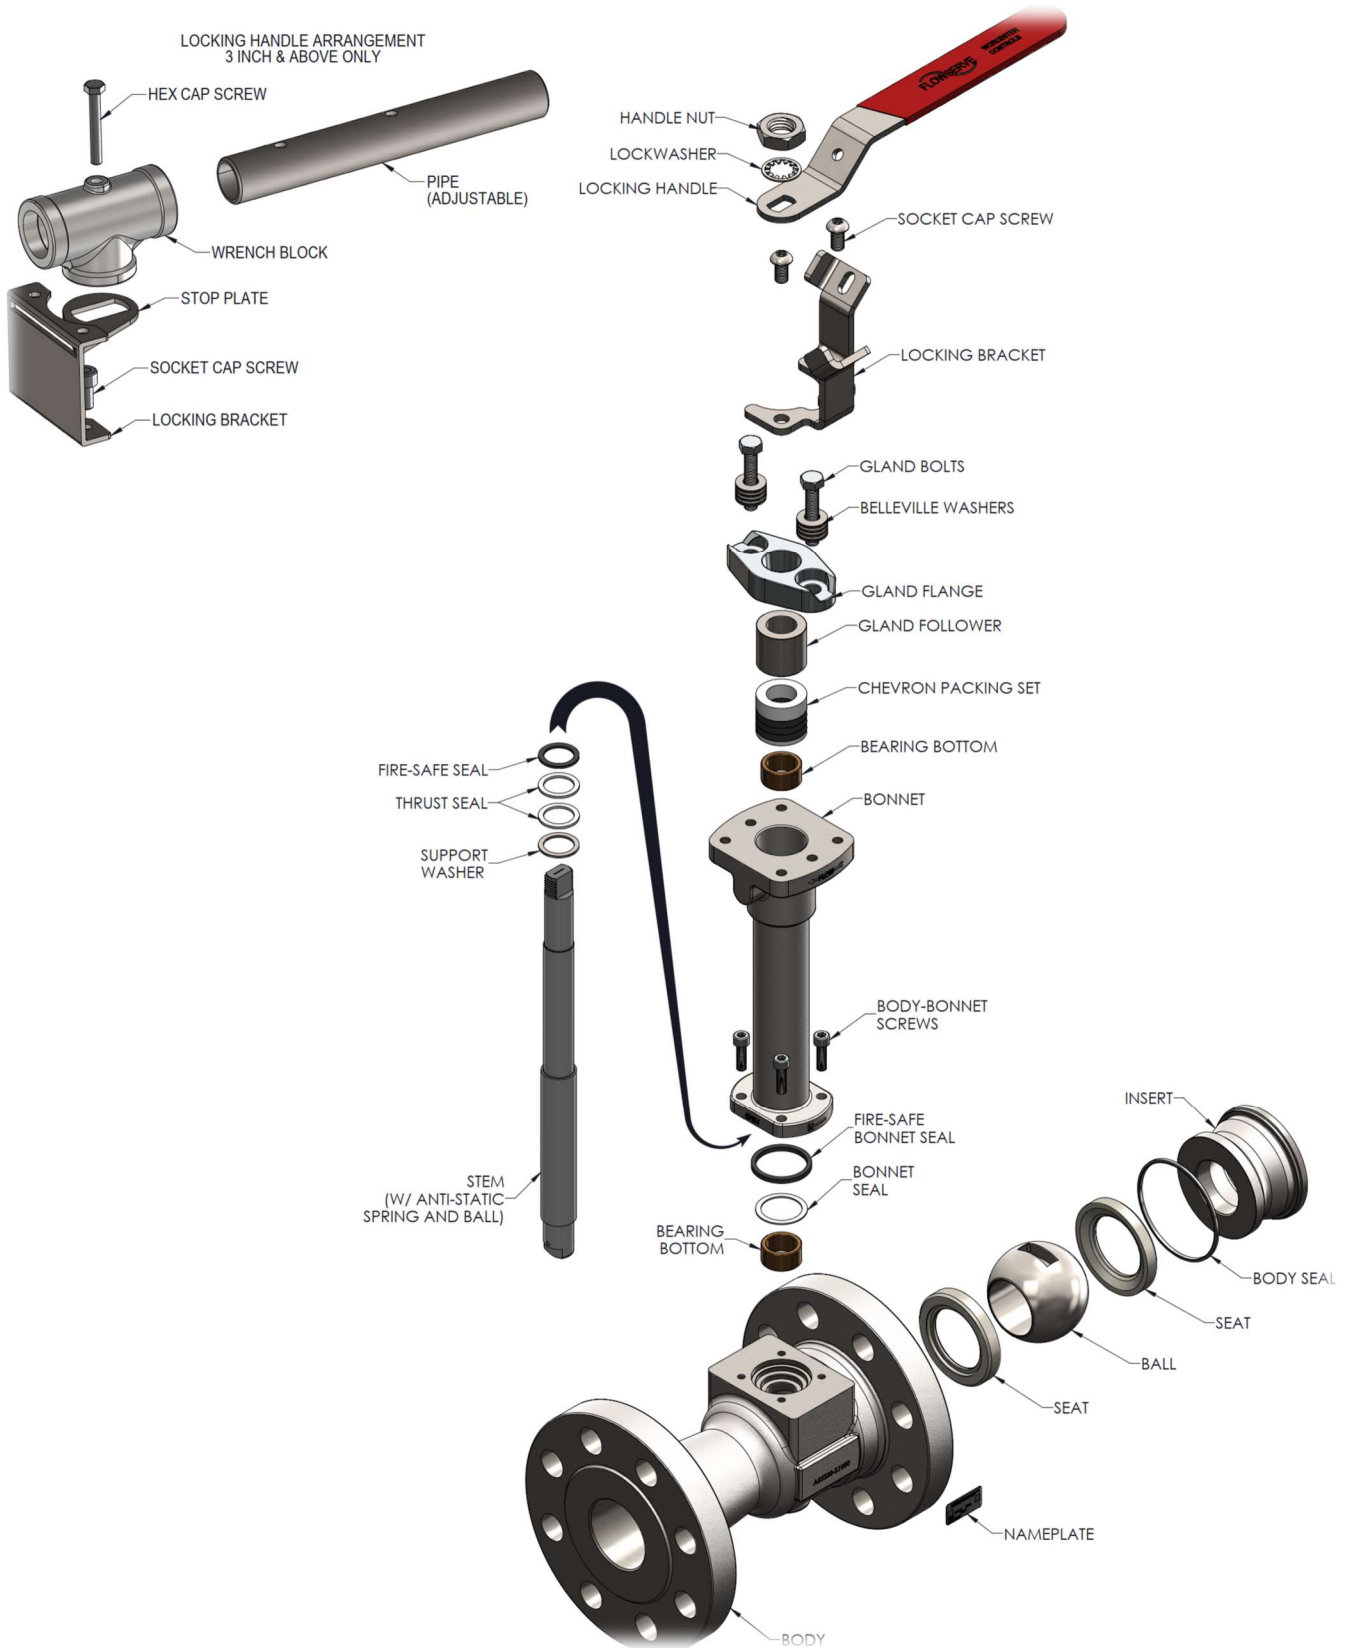

Figure 3 :
3. Remove the valve from line. Unscrew the insert and set aside. (Refer Figure 3 Exploded view for parts identification).
4. Take the stem and slide out the parts one by one starting from Support Washer, new thrust seals & new Fire-safe seals from top. Consider this as stem assembly. (Refer Figure 3 Exploded view for all parts identification)
NOTICE Note: Flow Arrow direction and Handle end should be opposite to each other after installation, refer Figure 3 Exploded view for clarity on the installation)